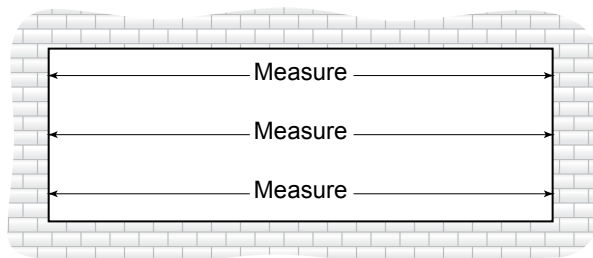

Fig. 22.2
- B. Measure the width of the opening (Rough Opening) at the top, middle and bottom. Select the smallest of these dimensions and subtract the left and right caulk joint width per approved shop drawing (1/2" minimum caulk joint at jams). **SEE Fig. 22.2.**